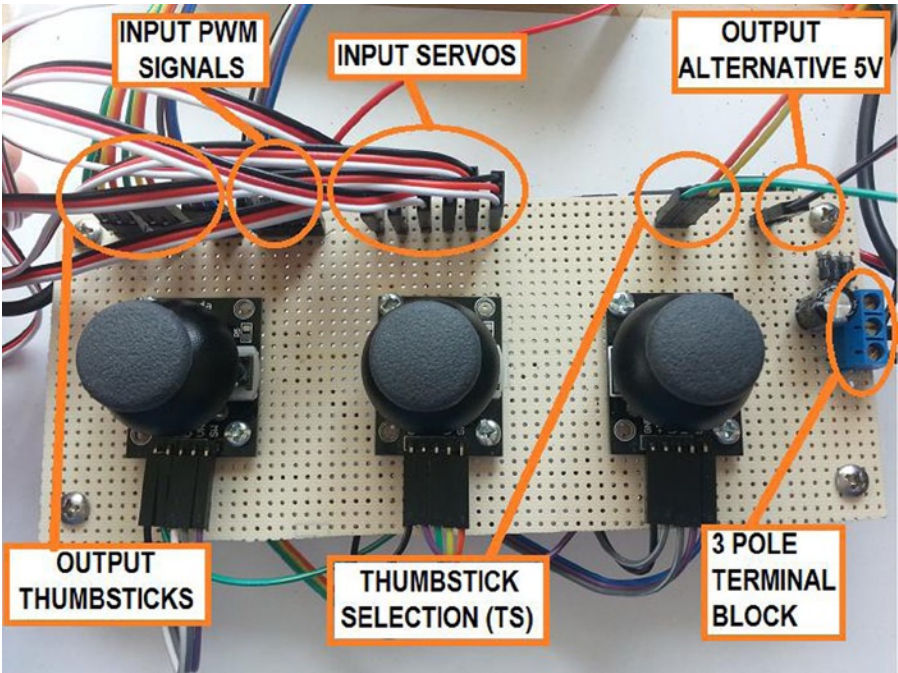
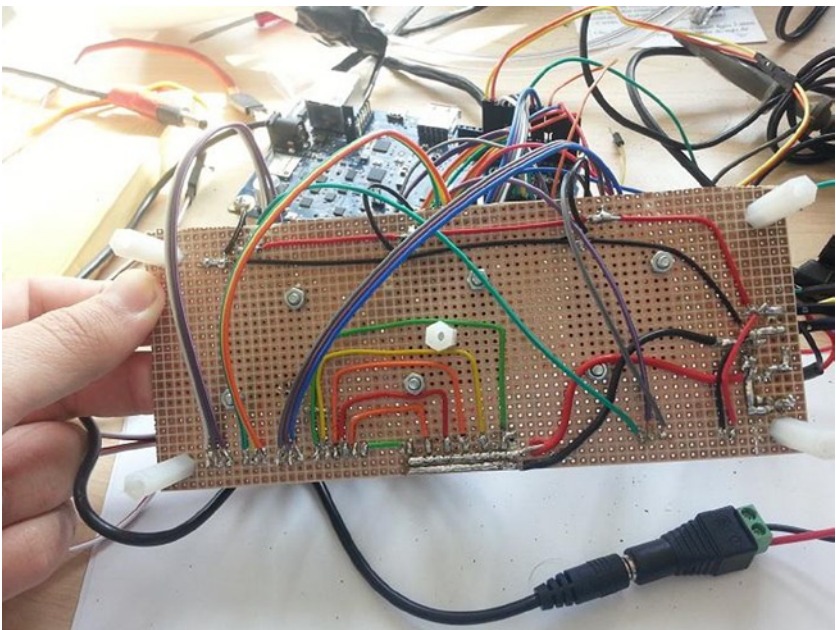

Figure 11-46. Top view of the servos board control
Figure 11-47. Bottom view of the servos board control
You can arrange the components in the prototyping board as shown in Figure 11-46 (top view) and Figure 11-47 (bottom view).
- Note in Figure 11-47 that five standoffs were used, four in the edges and one in the center. The reason for the central one is that, since you are using this board as a controller, you might rest your hands on the board. The central standoff will keep the board from warping given the weight of your hands. digikey.com sells different types of standoffs; the nylon ones are only around \$0.23 each.